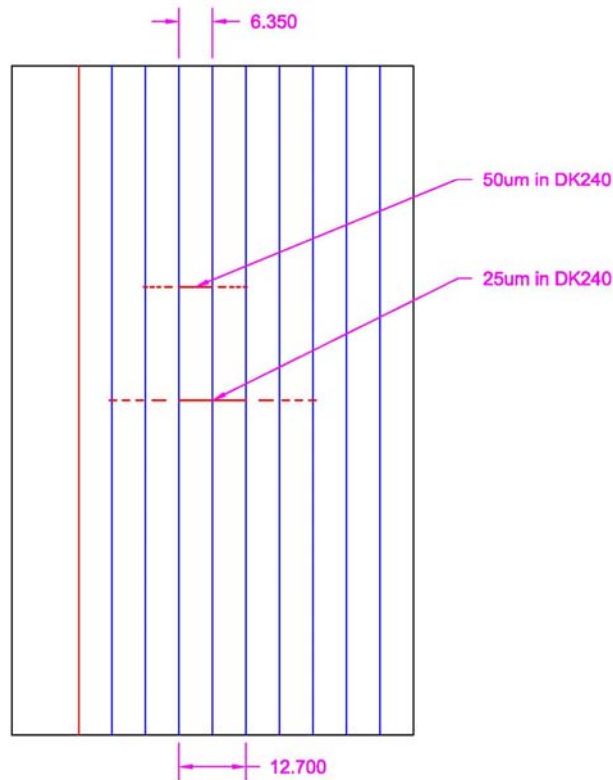

Figure 1. At 50 microns, the beam is 6.35mm in length.
5. Observe the laser beam diffraction pattern on the index card and compare to Figure 1 below. When looking at the beam, it is the main middle portion that we are interested in, not the edge fringes.